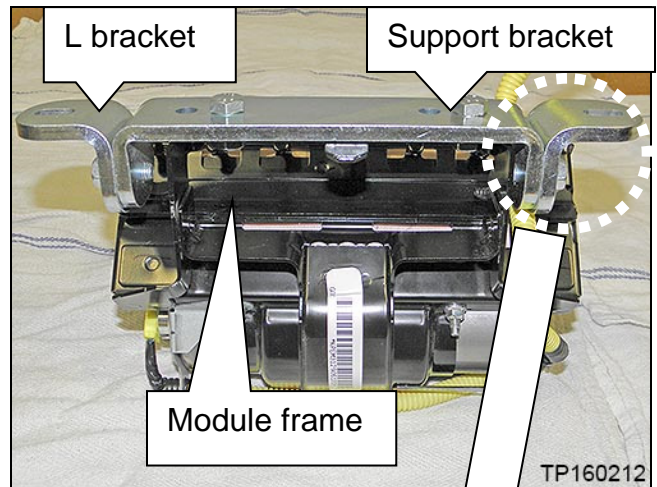

Figure 5
11. Put a washer between the bolt and L bracket (on the right side as viewed in Figure 5).